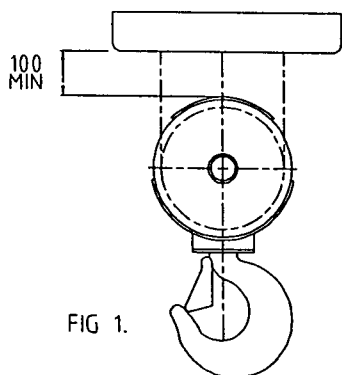

FIG 1.
- a. Minimum of 100mm clearance between hook block and nearest obstruction. Refer Figure 1.